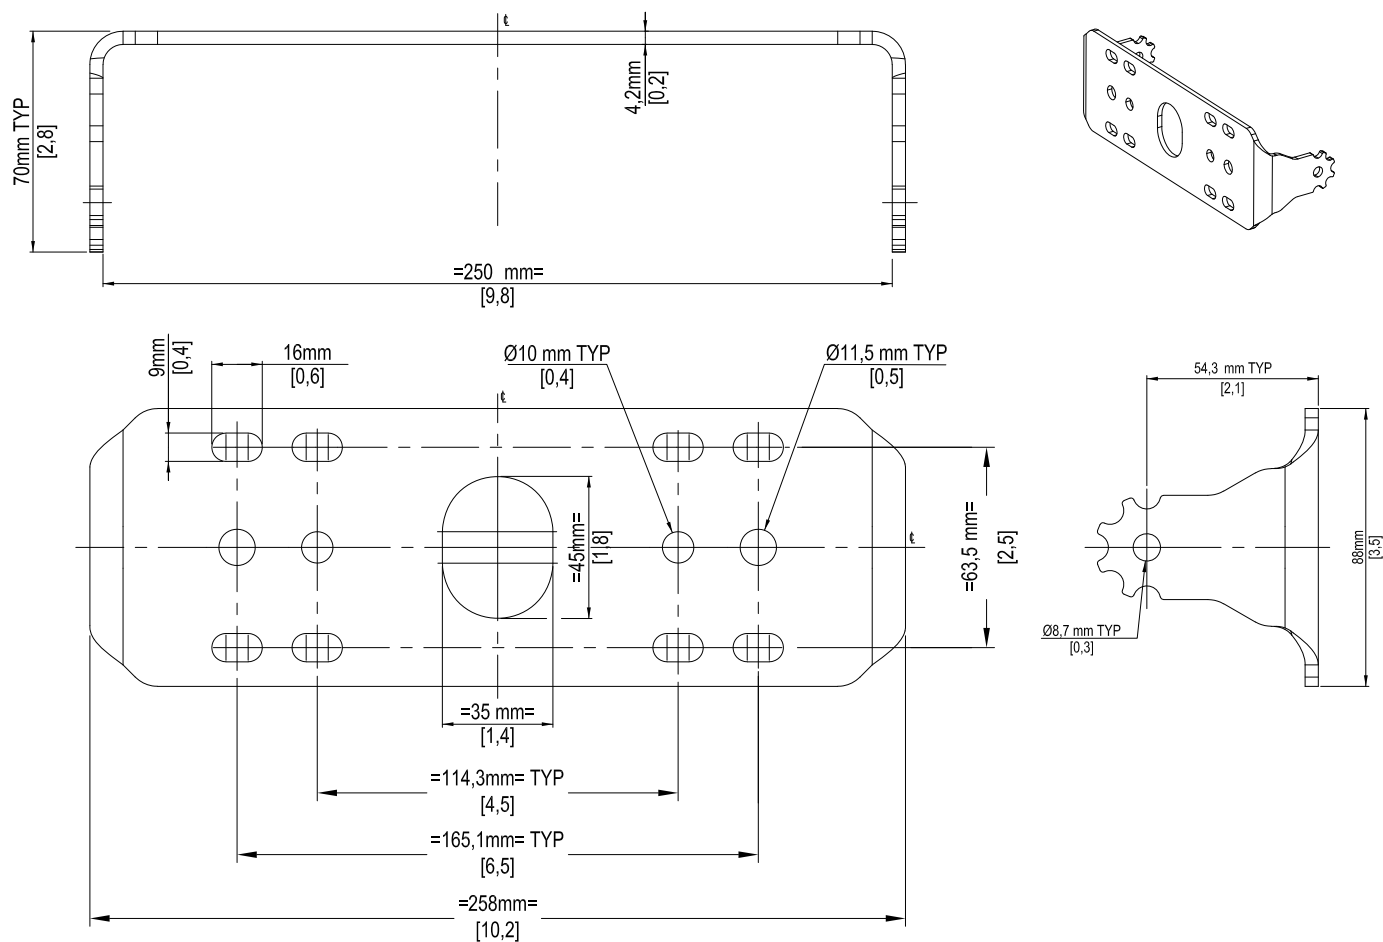

FIGURE 3: RMSSB MOUNTING HOLE DETAILS
2. Determine appropriate mounting distance between holes on the brackets for your application. Refer to Figure 3.